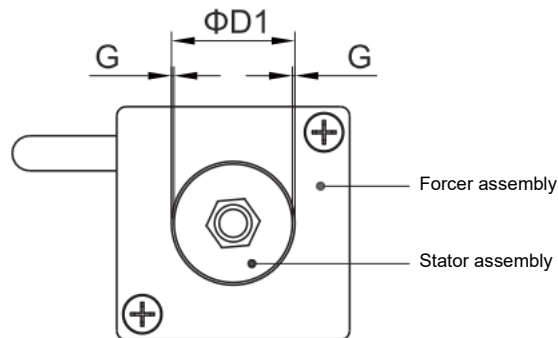

Figure 4.3-5 Forcer and stator installation dimensions precision
During the installation of the forcer and stator assembly, please pay special attention to the dimension (G) between the forcer and stator, and such dimensions can affect the performance and reliability of the linear motor (as shown in Figure 4.3-5). (The values of G, $\Phi D1$ are as shown in Table 4.3-2).
The guideway is magnetic element which could easily generate attraction force with the stator. In order to avoid the stator be deformed by the attraction force and problems in installation, please keep the installation distance(c) as shown in Figure 4.3-5 and Table 4.3-3.